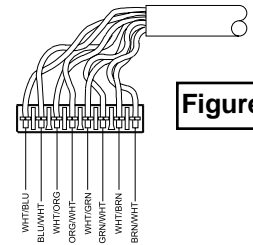

Figure 2
- 5.4.3 Strip off approximately three (3) inches of the other jacket using OnQ strip tool (P/N 363292-01) or equivalent. Position pairs over color-coded slots on the connector. **See Figure 2.**